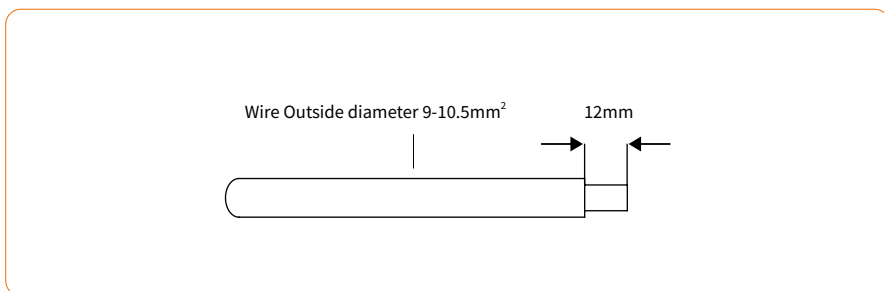

Figure 4-17
- 2) Peel off the battery cable insulation sleeve for 12 mm, as shown in Figure 4-17: